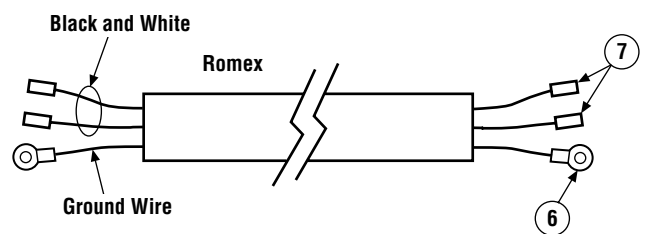

Figure 31 - Romex
- Refer to *Figure 31 on Page 24* and install the electrical hardware on the ends of the Romex wiring. Male terminals on the Black and White wires, and ring terminals on the ground wire.